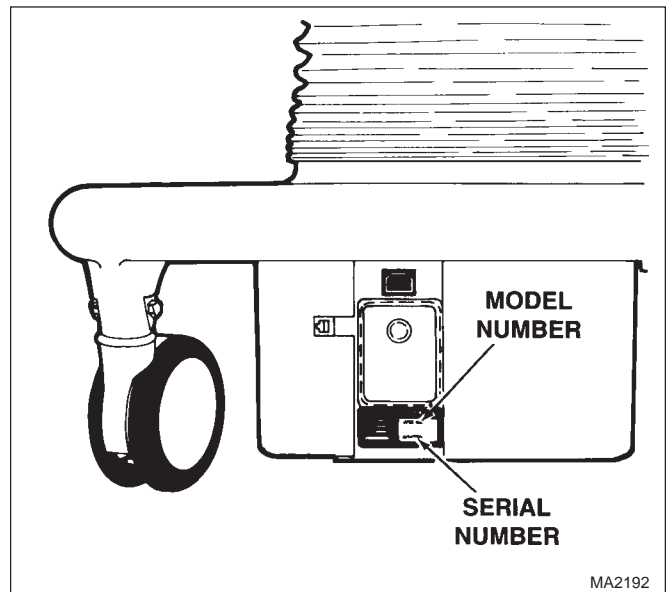

Figure 1-2. Model Number / Serial Number Location
- (1) Refer to Figure 1-2 to determine the location of the model number and serial number of the surgery table and record this data.
- (2) Refer to the Parts List to determine the item numbers of the parts, part numbers of the parts, descriptions of the parts, and quantities of parts needed and record this data (Refer to para 6-1).